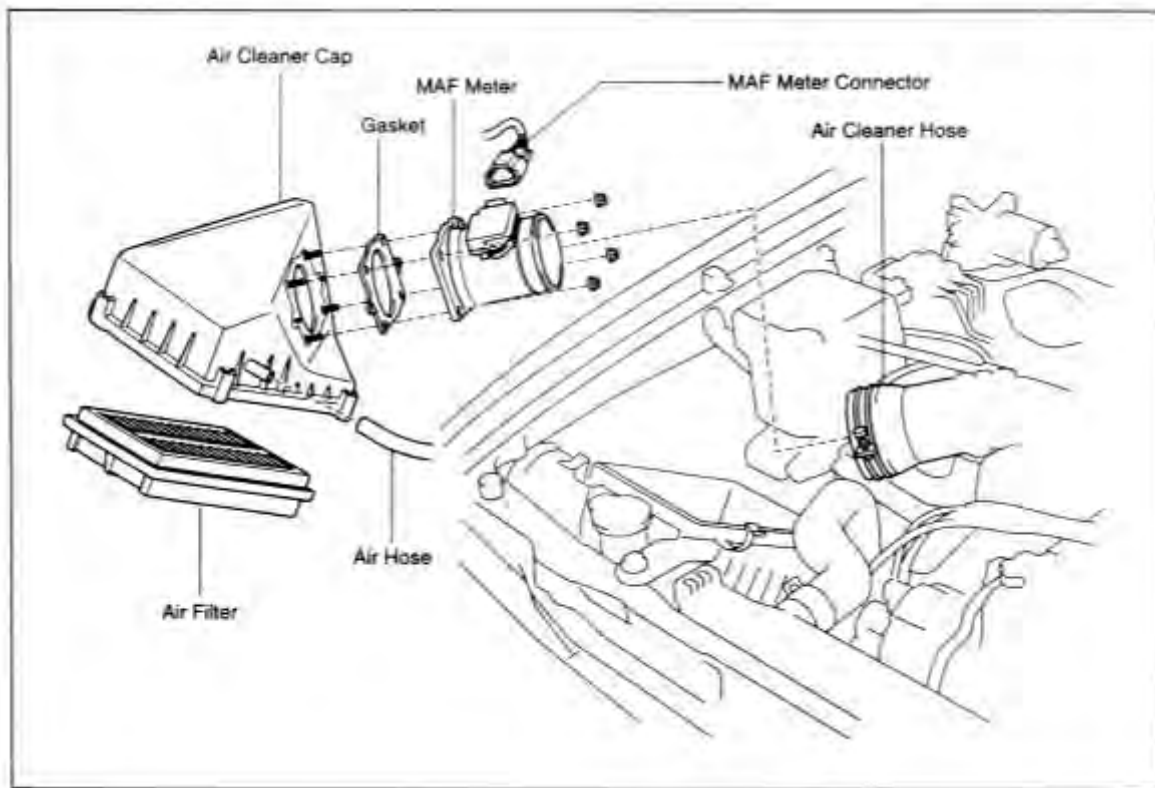

Fig. 1
- a. Reference the diagram labeled figure 1 on page 5. There is an air hose for the idle air control, a mass air flow meter and an air hose for the carbon canister (Fig. 4.1) and a vacuum sensing hose for the fuel pressure regulator (Fig. 4.2).
Unplug the MAF meter connector (Fig.1).